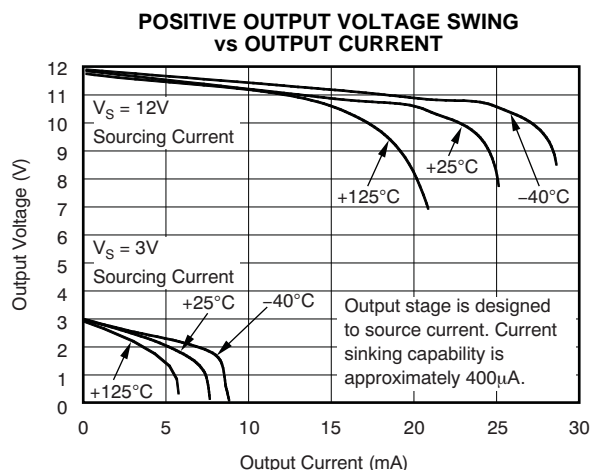

Figure 8.
(1) Offset is extrapolated from measurements of the output at 20mV and 100mV V_{SENSE} .
(2) Total output error includes effects of gain error and V_{OS} .
(3) Linearity is best fit to a straight line.
(4) For details on this region of operation, see the Accuracy Variations section in the Applications Information.
(5) See Typical Characteristic curve *Positive Output Voltage Swing vs Output Current* (Figure 8).
(6) Specified by design; not production tested.